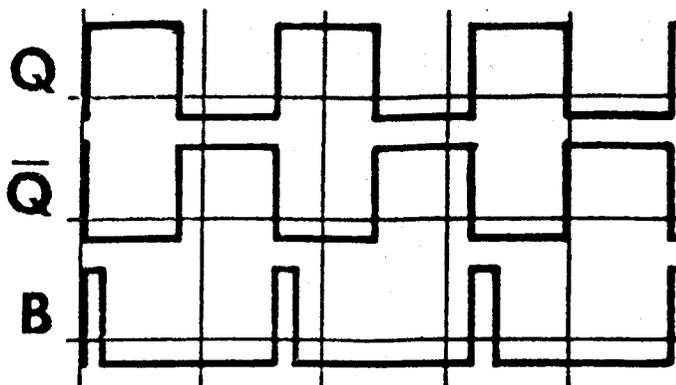

FIGURE 2
- A. Figure 2 represents a typical digital system with square wave as flip-flop output "Q" and " \bar{Q} ". "B" is generated each time "Q" goes positive. This relationship may be verified by connecting one input gate (white wire) to flip-flop "Q" and using the second input gate (other white wire) at "B" as follows:
1. Referring to Figure 2, connect one of the input gates (white lead) to "Q".